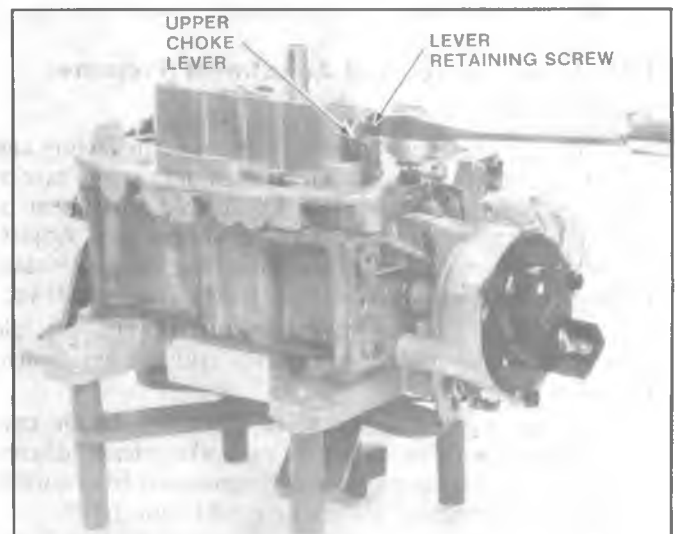

Fig. 6C3-6--Removing Upper Choke Lever
1. Remove upper choke lever from the end of choke shaft by removing retaining screw (Fig. 6C3-6). Then rotate upper choke lever to remove choke rod from slot in lever.
3. With Tool J-25322 drive roll pin (pump lever pivot pin) inward just until pump lever can be removed from air horn. Then remove pump lever from pump rod (Fig. 6C3-7). Note location of accelerator pump rod for reassembly.
4. Remove seven air horn to bowl attaching screws; then remove the two countersunk screws located next to the venturi (Fig. 6C3-8).
5. Remove air horn from float bowl by lifting straight up. The air horn gasket should remain on the float bowl for removal later (Fig. 6C3-9).